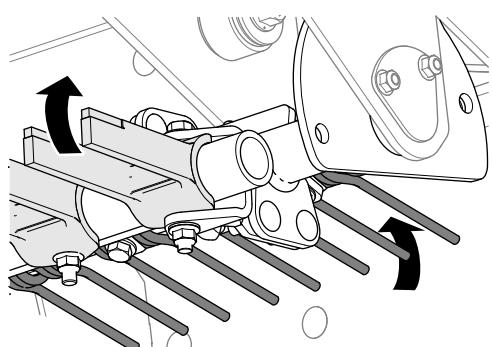

Figure 15
5. Rotate the multi-tool arm to select a set of plow tines (Figure 15).